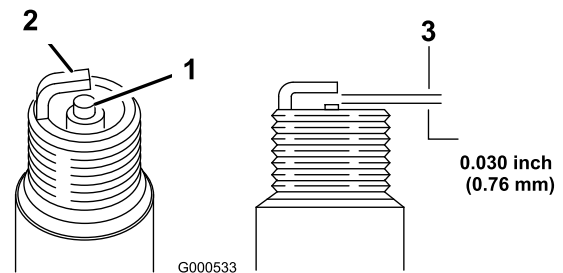

Figure 25
5. Set the gap on the plug to 0.76 mm (0.030 inch) as shown in Figure 25.